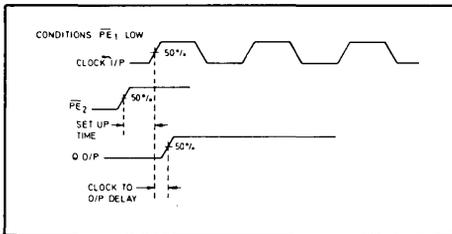

Fig. 3 Set-up timing diagram
- Set-up time is defined as the minimum time that can elapse between a L→H transition of a control input and the next L→H clock pulse transition to ensure that the  $\bar{5}$  mode is forced by that clock pulse (see Fig. 3).